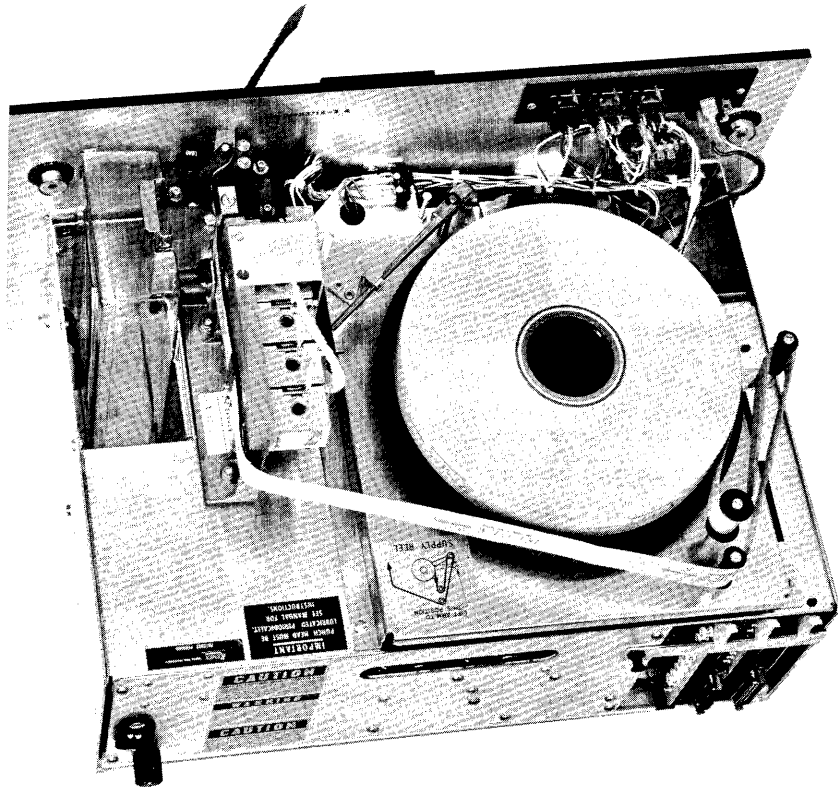

Figure 3-1. Tape Loading, Roll Type Tape
- b. RAB Units: Place a spool of tape on the supply reel and thread it through the punch and out the opening in the front panel. Thread the tape so that the supply arm is in the approximate center of its travel. On some units the actuation of either the tape supply switch, S6, or the tape supply error switch, S7 will inhibit tape punching. The threading path is shown in Figure 3-1 and on a decal mounted adjacent to the punch.